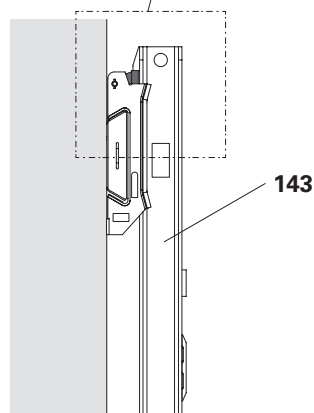

Fig. C6.05
- ⇒ The support noses (143.1) of the Climbing Rail ACS (143) must rest fully on the swing ledger (161.2). (Fig. C6.05 + C6.05a)